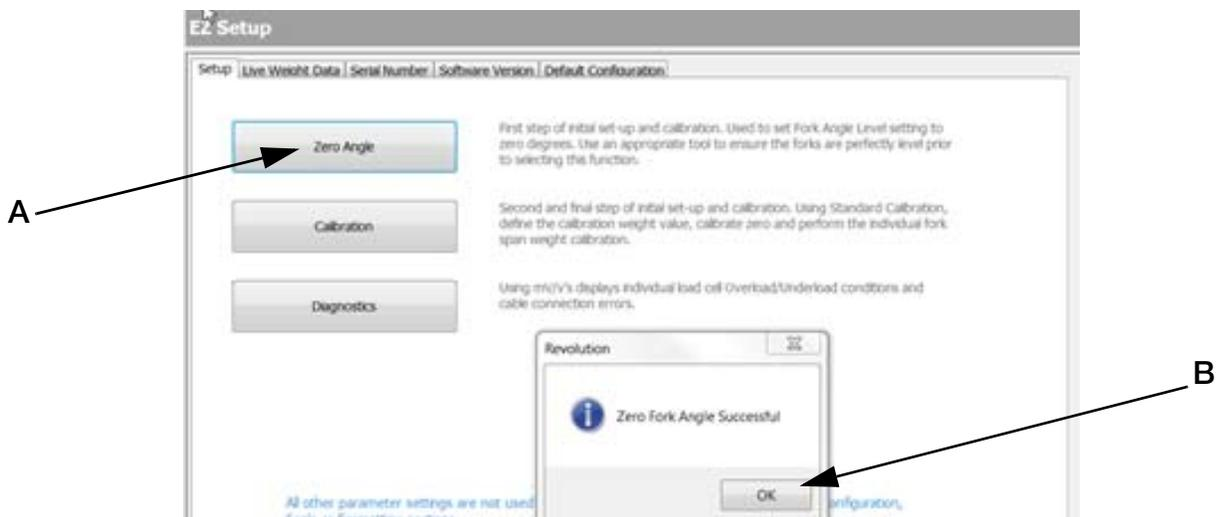

Figure 5-1. Zero Forks
2. In the setup screen, press Zero Angle (Figure 5-1 A).
3. A pop-up appears as shown in (Figure 5-1 B). Press OK to close the pop-up box.